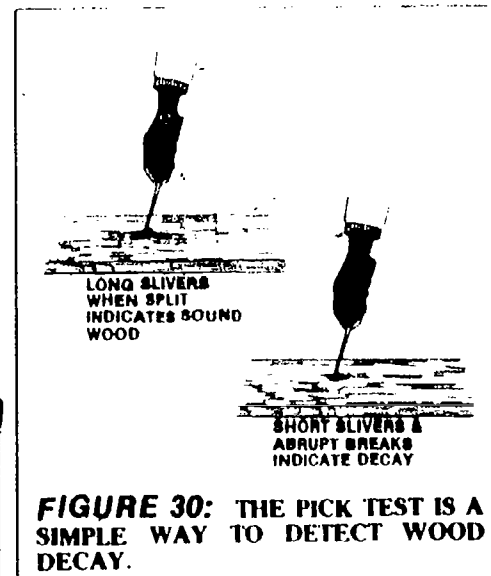

FIGURE 30: THE PICK TEST IS A SIMPLE WAY TO DETECT WOOD DECAY.
1. A sharp pointed instrument of tough steel (ice pick, small chisel, sharpened screwdriver) is jabbed into the wood across the grain and pried up (see Figure 30).